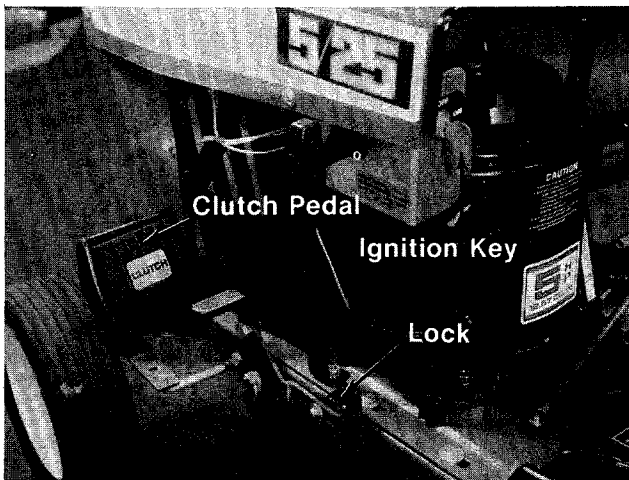

FIGURE 13.
- F. The Clutch Pedal is operated with your left foot. The Clutch Pedal, when depressed, disengages the engine from the transmission so you can stop the movement of the rider mower to shift gears. The Clutch Pedal can be locked in the DISENGAGED position by depressing the Clutch Pedal and lifting the clutch lock with your left hand. To release the Clutch Pedal, depress it with your foot. See figure 13.
4. Depress the clutch pedal and lock it down with lock. See figure 13.